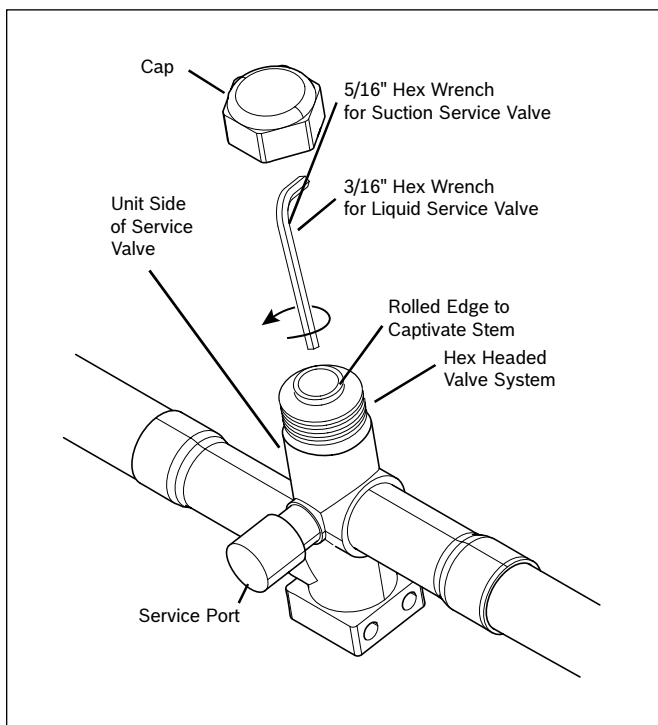

Figure 29
1. Remove Service Valve Cap (Fig. 29).
2. Fully insert hex wrench into the stem and back out counterclockwise until valve stem just touches the rolled edge (approximately five (5) turns.)